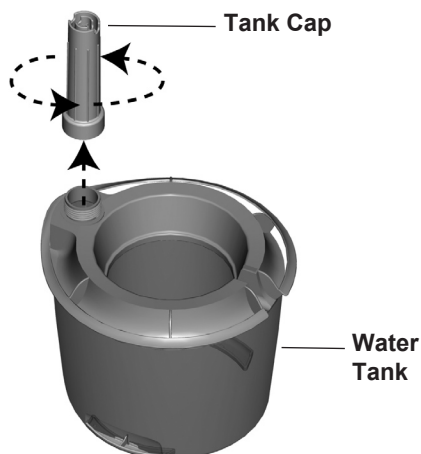

Figure 12
3. Turn the Water Tank over and unscrew the Tank Cap by twisting it counterclockwise. See Figure 12.